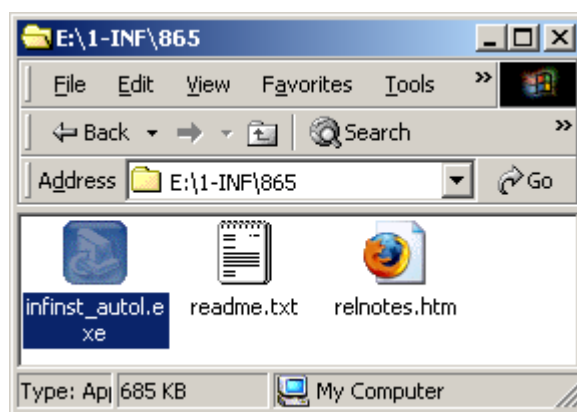

Figure 7-4: Chipset Driver Installation Program
Step 9: A new window opens (**Figure 7-4**).